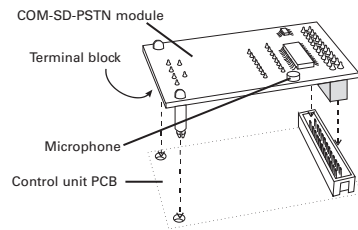

Figure 2: Installing the module
3. Fit the module into the control unit (Figure 2).